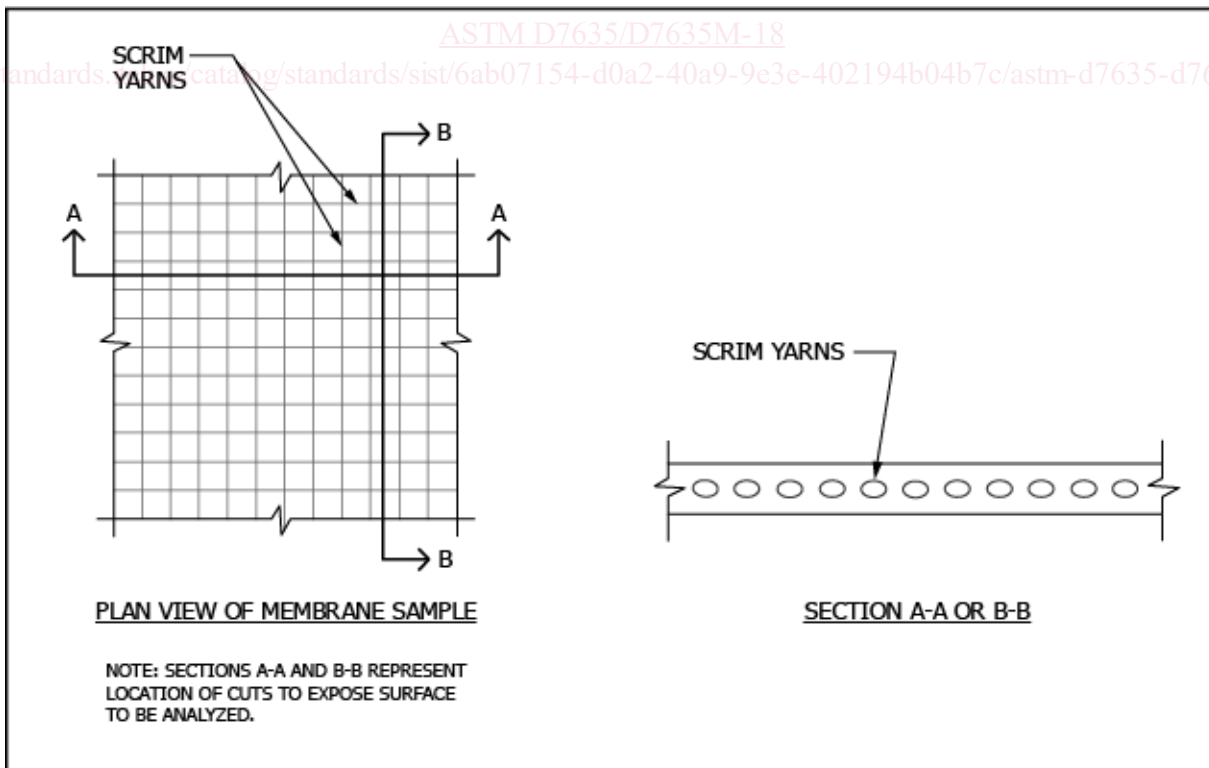

FIG. 1 Schematic of Preparation Illustrating Cuts Normal to Scrim Directions
6.1 Make a clean cut perpendicular to the plane of the specimen, normal to one of the thread yarn intersections, completely through the sheet exposing the area to be measured (see Fig. 1).